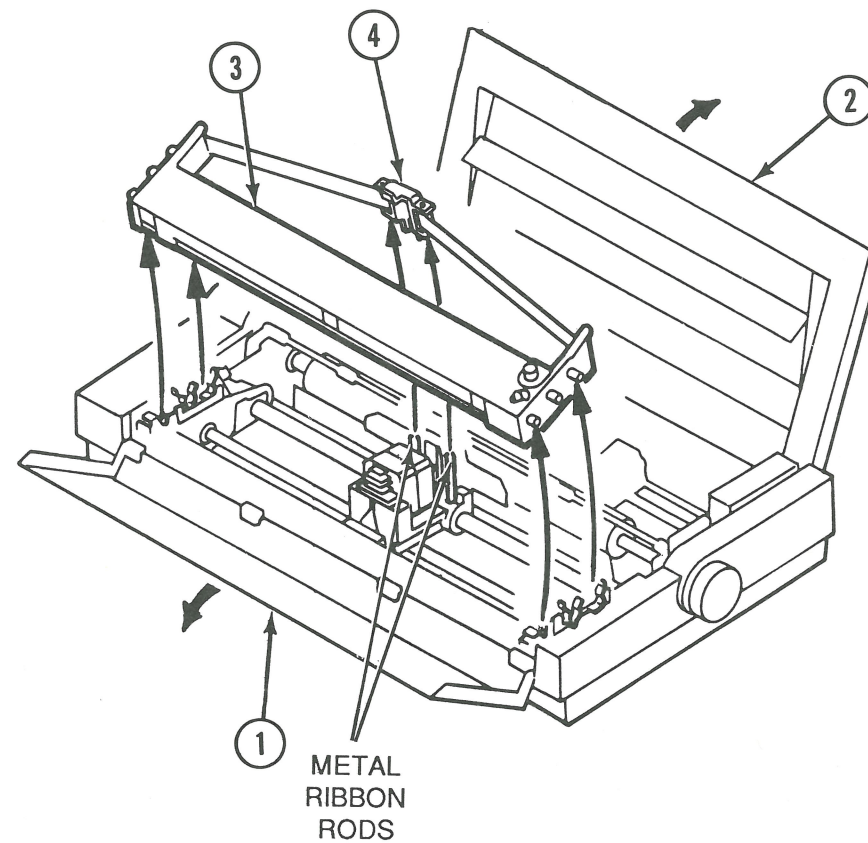

FIGURE 10
2. Open the back cover (Figure 10, #2) and then the front cover (Figure 10, #1) of the printer.
3. Gently lift up one end of the ribbon cartridge and then the other until it unsnaps from the printer (Figure 10, #3).
4. Gently pull up on the ribbon clip-in guide (Figure 10, #4) until it is free from the metal rods.